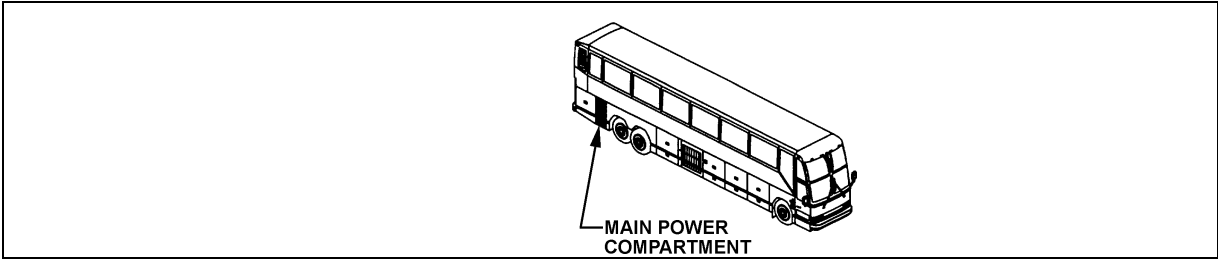

FIGURE 4: MAIN POWER COMPARTMENT
5. Open the main power compartment door (figure 4).